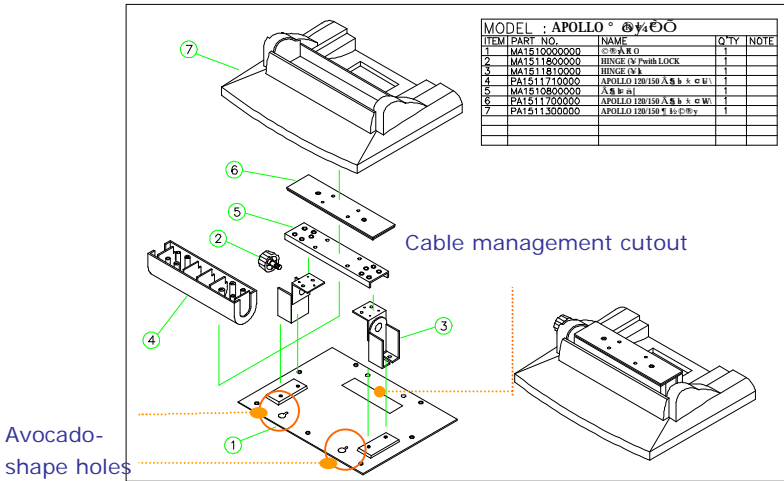

FIGURE 3-2: APOLLO PEDESTAL KIT
1. The rectangle-shape opening (Fig. 3-2) at the bottom side of the big pedestal can act as a cable management cutout. All the cables connecting to the I/O ports can come out from this opening, then down to the table.